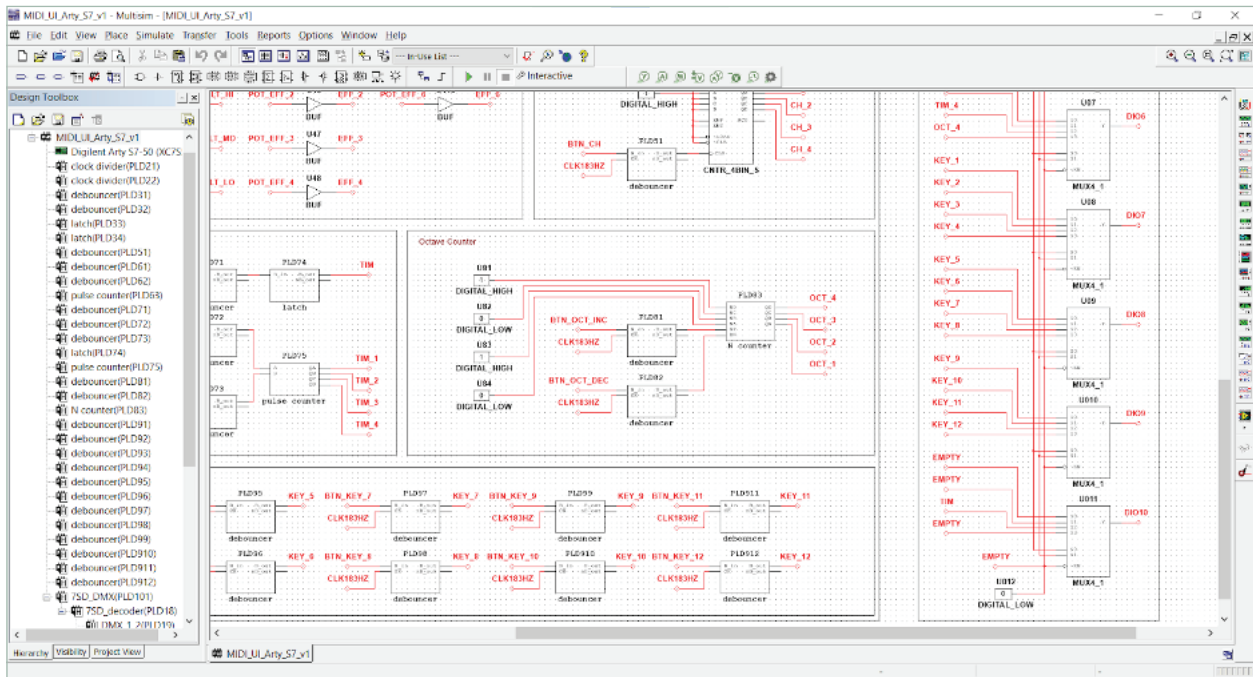

Figure 2. While there are many driver circuits required, they are not excessively complex.
The design under discussion will support three control signals via the hardware user interface components. The controls are for (1) slowly changing analog signals, (2) fast-changing analog signals, and (3) digital signals. And each type of control has human-interface components and circuitry. A portion of the driver circuitry for this MIDI controller is shown in **Figure 2**.